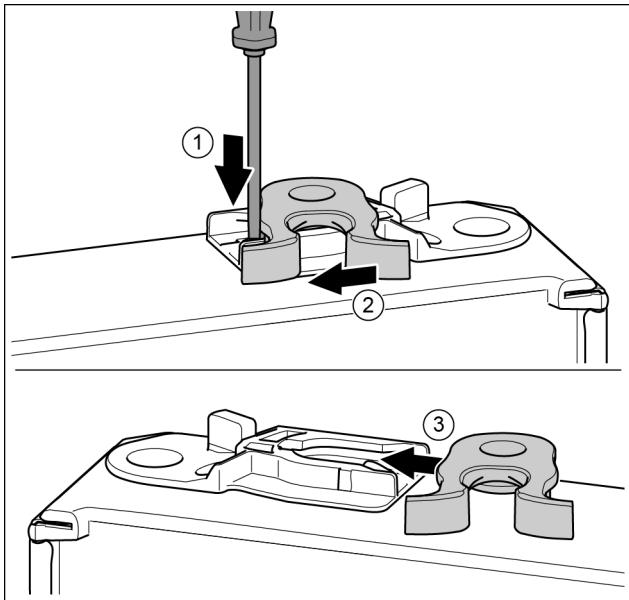

Fig. 18*
- ▶ 用带槽螺丝刀向下按住接片。* Fig. 18 (1)
- ▶ 将锁钩从导向装置拉出。* Fig. 18 (2)
- ▶ 将另一侧的锁钩推入导向装置。* Fig. 18 (3)